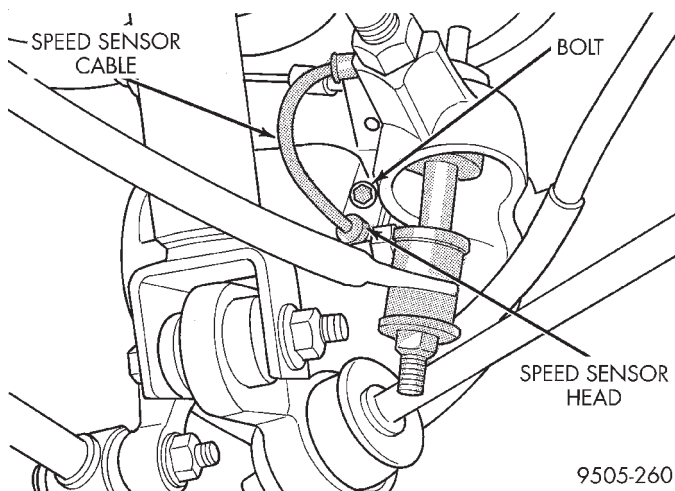

Fig. 41 Rear Speed Sensor Head Attachment To Brake Support Plate
(6) Remove the rear speed sensor head from the rear brake support plate (Fig. 41).
(1) Install speed sensor head into brake support plate (Fig. 41).
(2) Install wheel speed sensor attaching bolt (Fig. 41). Tighten the speed sensor head attaching bolt to 8 N·m (75 in. lbs.).